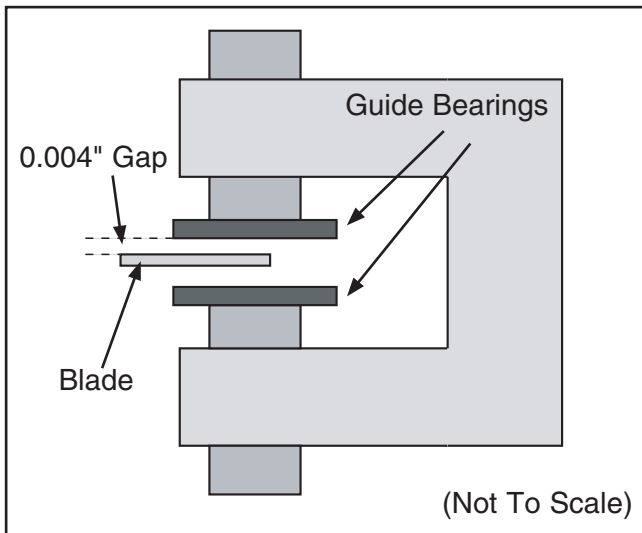

Figure 28 Correct gap between the guide bearings and the blade.
5. Slide the guide bearings against the side of the blade. Make sure the front edge of the bearings are still behind the gullet line. The gap between the face of each guide bearing and the side of the blade needs to be the same as the thickness of a dollar bill or approximately 0.004" as shown in **Figure 28**. Tighten the thumb screws once the guide bearings are correctly set.